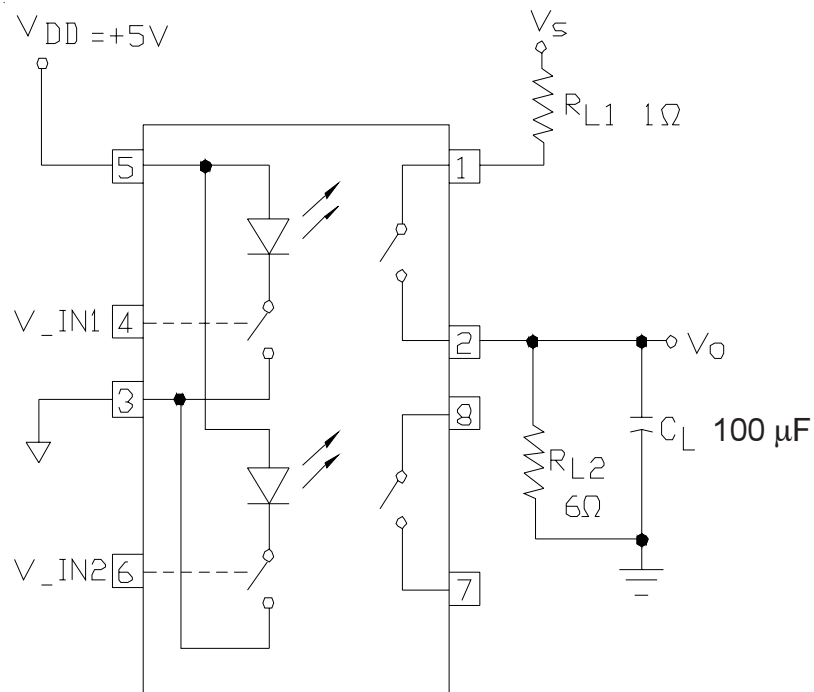

Fig 3: Switching Test Circuit (Only one channel shown)
- ① Specification is guaranteed by design
- ② Rise and fall times are controlled internally
- ③ Inputs protected for $V_{IN} < 1.0V$ and $V_{IN} > 7.5V$
- ④ Optically coupled Solid State Relays (SSRs) have relatively slow turn on and turn off times. Care must be taken to insure that transient currents do not cause violation of SOA. If transient conditions are present, IR recommends a complete simulation to be performed by the end user to insure compliance with SOA requirements as specified in the IRHNJ57130 data sheet
- ⑤ While the SSR design meets the design requirements specified in MIL-PRF-38534, the end user is responsible for product derating, as required for the application
- ⑥ Reference Figures 3 & 4 for Switching Test Circuits and Wave Form
- ⑦ Input Supply voltage shall not exceed 5.25V@Tc $\geq 70^\circ C$
- ⑧ Total Dose Irradiation with Input Bias. 10mA I_{DD} applied and $V_{DS} = 0$ during Irradiation
- ⑨ Total Dose Irradiation with Output Bias. 80 Volts V_{DS} applied and $I_{DD} = 0$ during Irradiation
- ⑩ International Rectifier does not currently have a DSCC certified Radiation Hardness Assurance Program